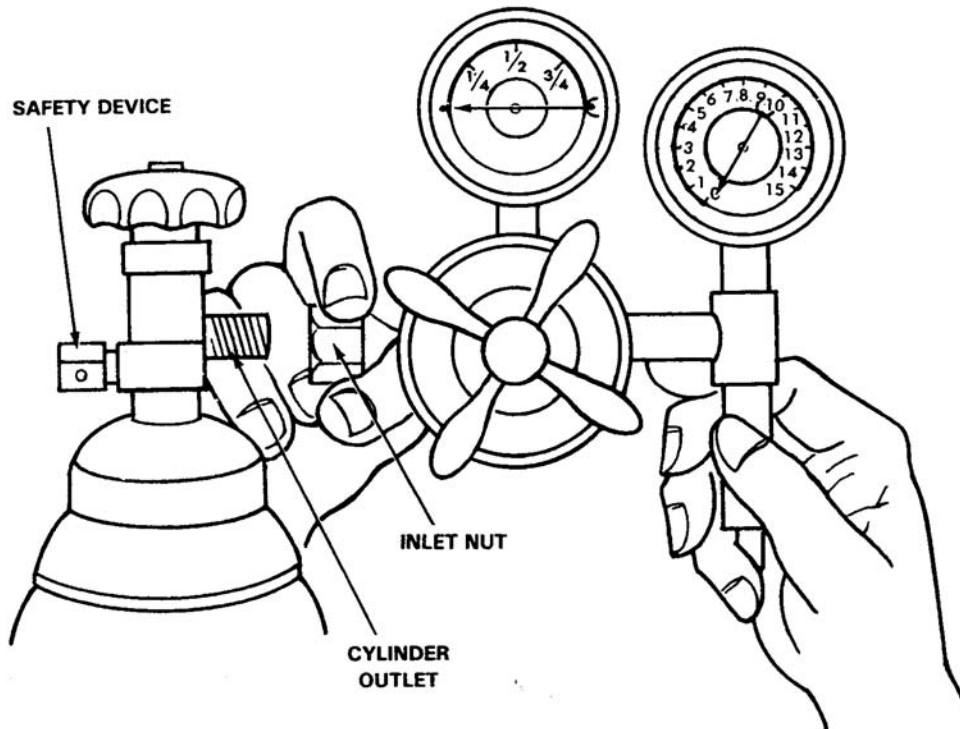

Figure 3-10. Attaching a cylinder regulator.
(1) "M" cylinder. To attach the cylinder regulator to the oxygen cylinder, hold the gauges in the upright position. Then insert the male portion of the cylinder regulator inlet into the threaded outlet on the oxygen cylinder (figure 3-10). Use your hand to tighten the inlet nut located on the cylinder regulator. Complete the tightening of the nut with a nonsparking wrench.